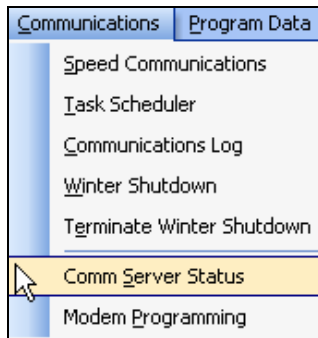

Figure 32.0.1
1. From the toolbar at the top of the screen select **Communications** then scroll down to **Comm server status** and click on it (Figure 32.0.1).